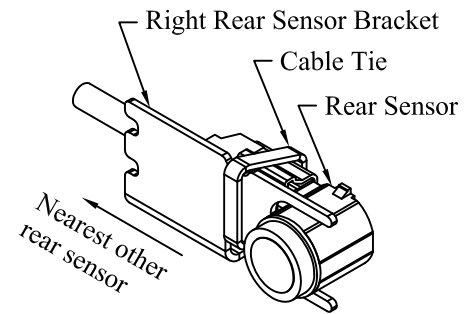

Figure 5: Orientation of sensor in bracket.
8. **Position** sensors into brackets and fix in position using a cable tie (Figure 5).